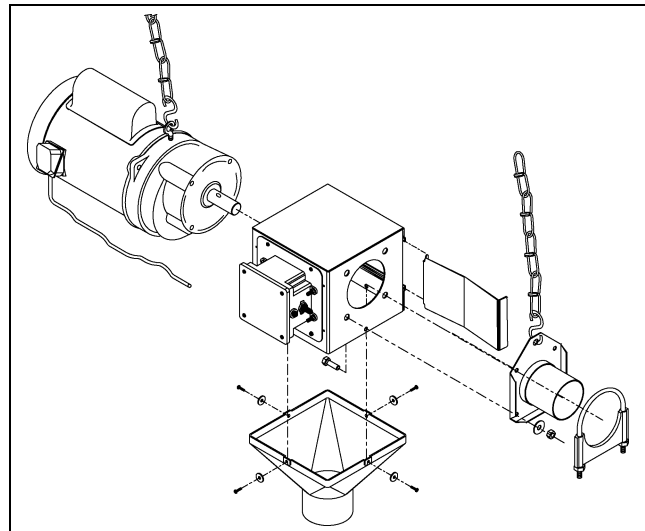

**Figure 5Q** Assembly of Tube Anchor to the Control Unit
1. Bolt the tube anchor to the control unit body with a flat washer on each of the four (4) 5/16" x 3/4" bolts. (See Figure 5Q for more details.)
1. Bolt the tube anchor to the control unit body with a flat washer on each of the four (4) 5/16" x 3/4" bolts. (See Figure 5Q on Page 25 for more details.)
3. Bolt the two (2) mounting brackets together with the four (4) bolts and washers provided.
4. Attach the motor support assembly to the control unit with the four (4) bolts already in the mounting bracket and belt guard. Secure with the four (4) lock washers and hex nuts provided. If necessary, motor orientation can be reversed by rotating the motor mount 180°.